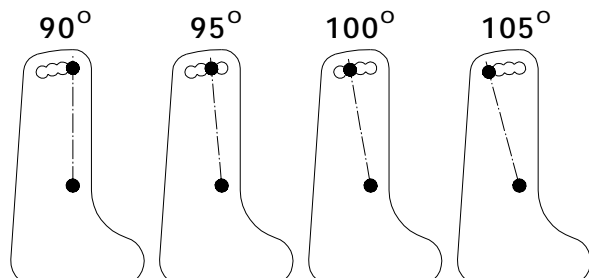

FIGURE 3 - CHANGING BACK ANGLE
CHANGING BACK ANGLE (FIGURE 3)
2. Remove the TOP hex bolt, two (2) washers and locknut that secure the back cane to the mounting plate on the wheelchair frame.
3. Refer to DETAIL "B" in FIGURE 3 to determine the mounting plate hole for the desired back angle.
5. Reinstall TOP hex bolt, two (2) washers and locknut. Refer to FIGURE 3 for correct hardware orientation.